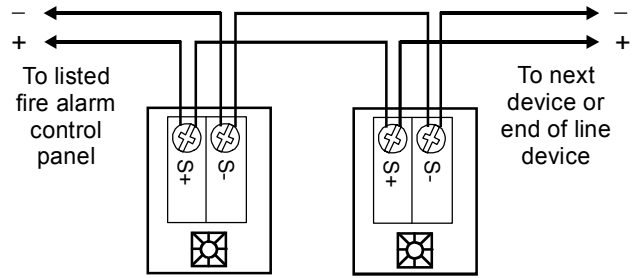

Figure 3: Wiring diagram
3. Connect the strobe terminals to the signal circuit field wiring. You must observe polarity for the unit to function properly. See Figure 3.